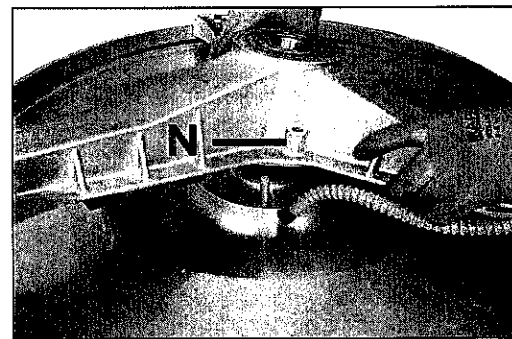

fig. 24
- Position the bearings' box against the rear side of the back of the outer drum, trying to coincide with the fastening points. The position of hole **N** (fig. 24) relates to the position of the drainage hole on the outer drum separator (care must be taken not to damage the drainage tube).